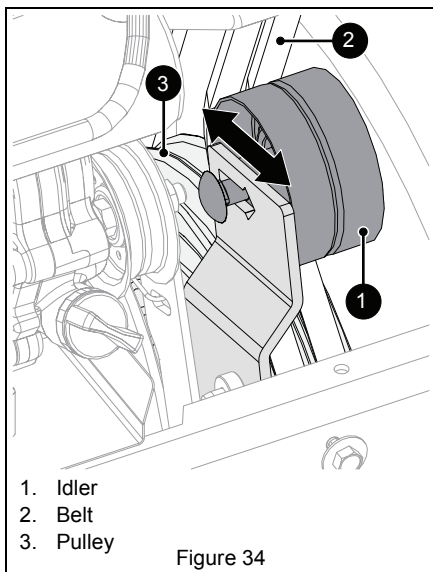

Figure 34
See Figure 34.
- If there is less than 1.6 mm (1/16") gap, loosen idler adjustment nut and move idler away from belt or pulley. Position idler to achieve a 1.6 mm (1/16") minimum brake pad gap and a 12.7 mm – 22.2 mm (1/2" – 7/8") gap between the plastic roller and the frame. See Figure 34.